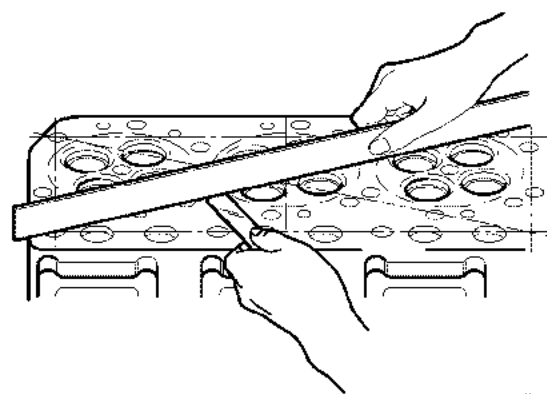

Figure 5-63
- Place a straightedge along each of the four sides and each diagonal. Measure the clearance between the straightedge and combustion surface with a feeler gauge (Figure 5-63).